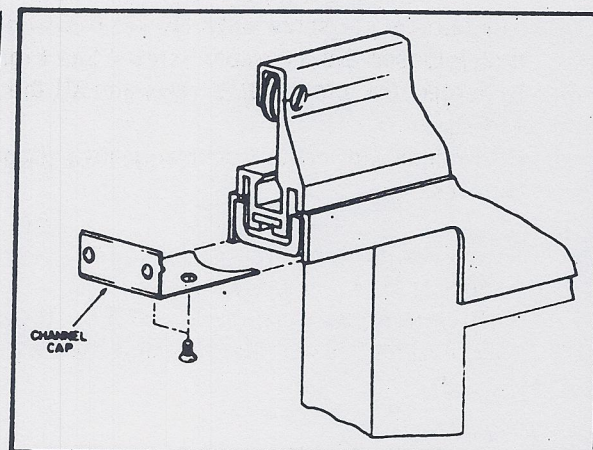

FIGURE 24
- c. Remove channel cap. See Fig. 24. Replace channel latch.